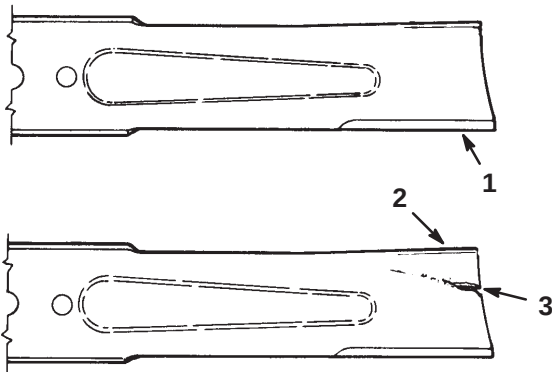

Figure 23
2. Inspect the cutting edges (Fig. 23). If the edges are not sharp or have nicks, remove the blade(s) and sharpen them; refer to Sharpening the Blade(s), page 13.
3. Inspect the blade(s), especially the curved area (Fig. 23). If you notice any damage, wear, or a slot forming in this area (Fig. 23), immediately install a new blade.